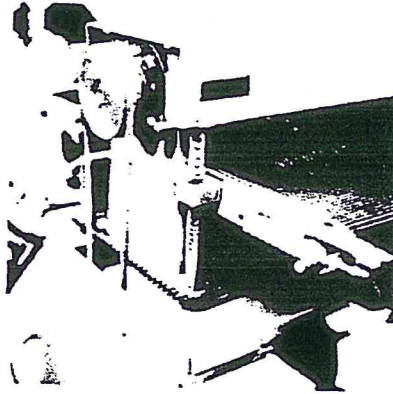

Fig. B-1
1. Oil corner screw and crank screw with 2-4 drops at the top and bottom wear washers and where the screws go through the table, as required for ease of turning the crank handle (see fig. B-1).